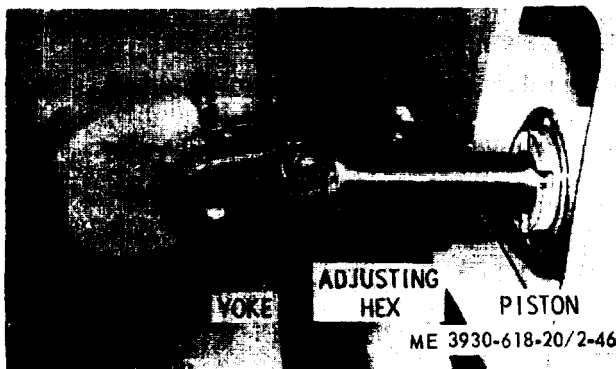

Figure 2-46. Tilt cylinder adjustment.
c. If adjustment is necessary, tilt the mast to the forward position and loosen the screw (fig. 2-46) on the tilt cylinder yoke. Using a wrench, turn the piston rod by adjusting hex in or out of the cylinder yoke to obtain the correct tilt angle.